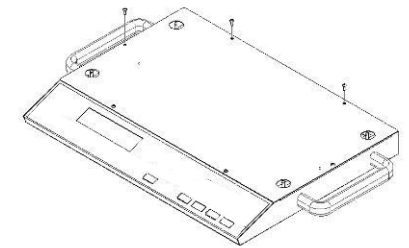

Figure 11: Removing scale cover
2. Remove the scale top cover by removing the six (6) screws (Fig. 11).